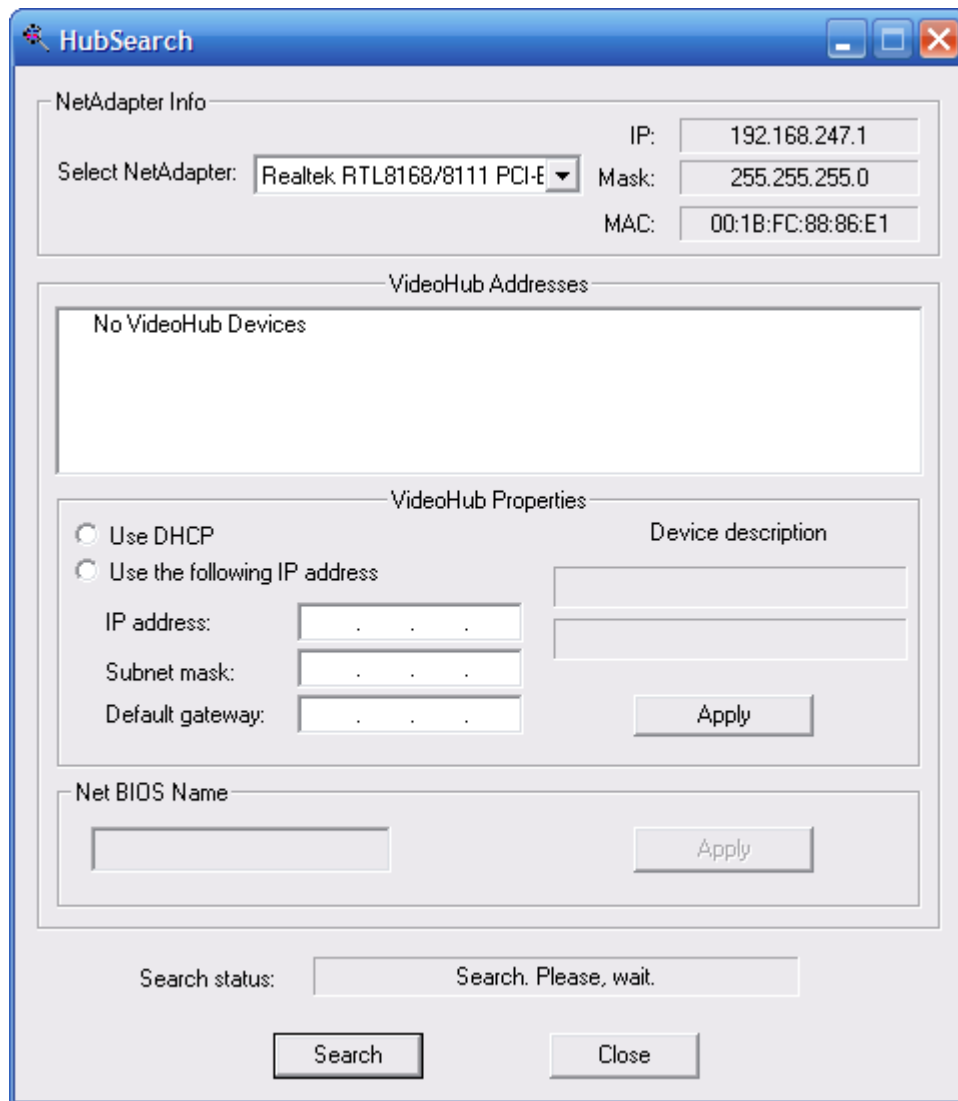

Figure 7.2-2 Searching for LS and LH
3. The system will search for all LSs and LHs connected to this local network (Figure 7.2-2). The **Search status** field will read **Search. Please, wait** during the search process.